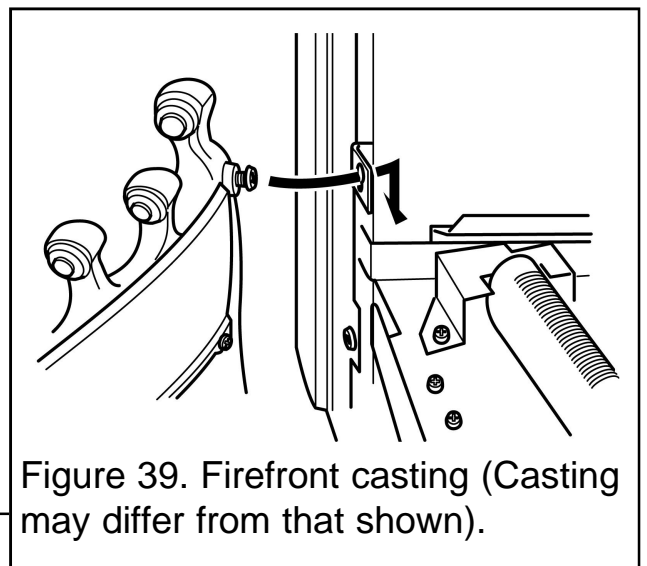

Figure 39. Firefront casting (Casting may differ from that shown).
Locate the two screw heads at the rear top corners of the firefront casting through the keyhole slots at the inner sides of the fascia. If the screw heads do not project enough or project too far, the screws can be adjusted. Lower the casting so that it rests on the hearth (See figure 39).
14.5 Locate the two screw heads through the keyhole slots at the inner sides of the surround. If the screw heads do not project enough or project too far, the screws can be adjusted. Lower the casting so that it rests on the hearth (See figure 39).